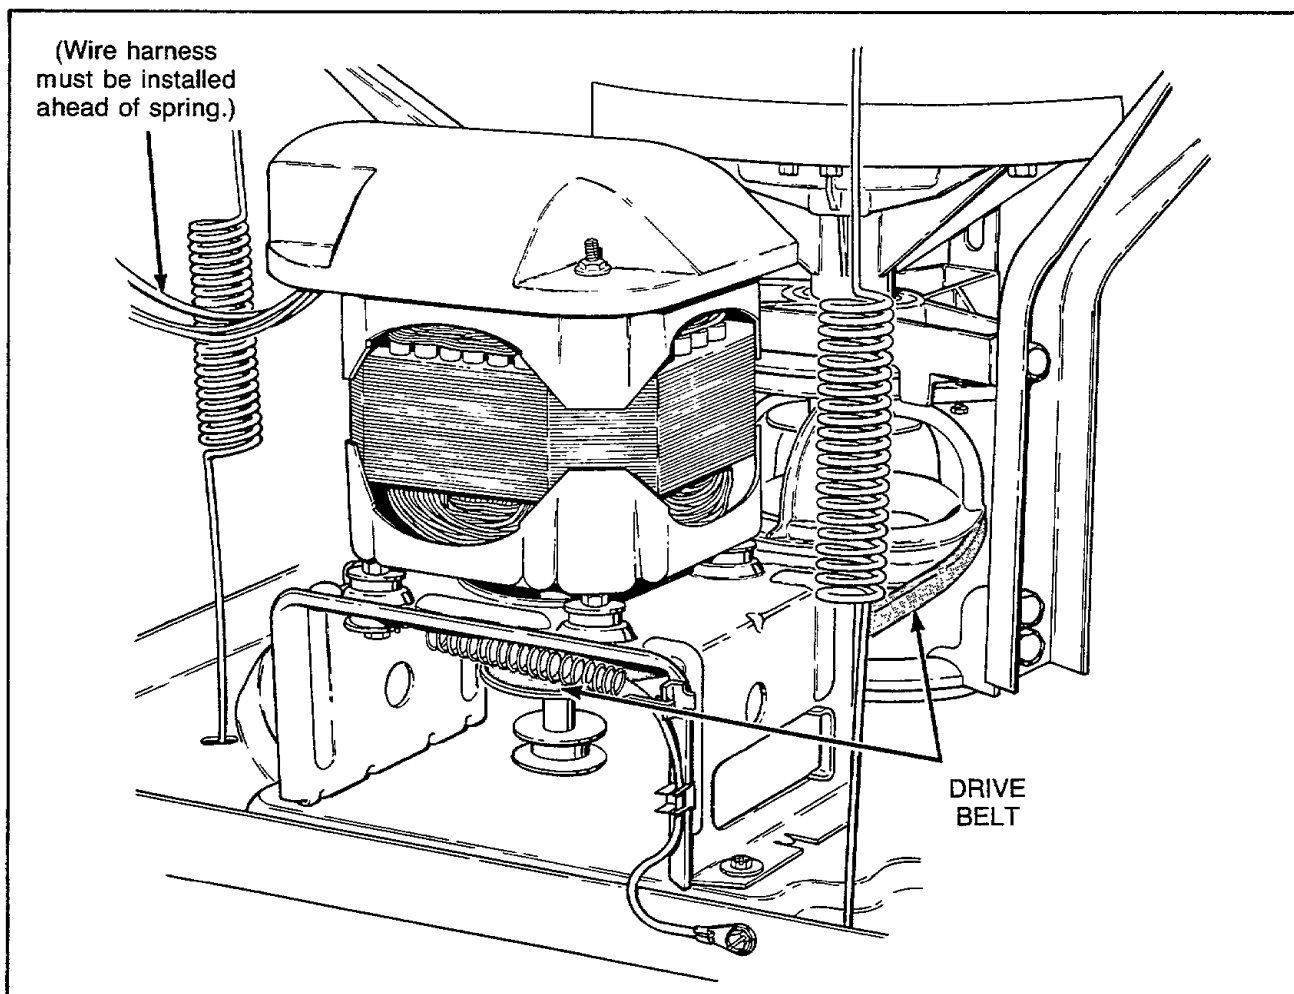

Figure 12
- f. While holding idler lever, reach in and around right side of motor and run belt off right side of large drive pulley, *Figure 12*.